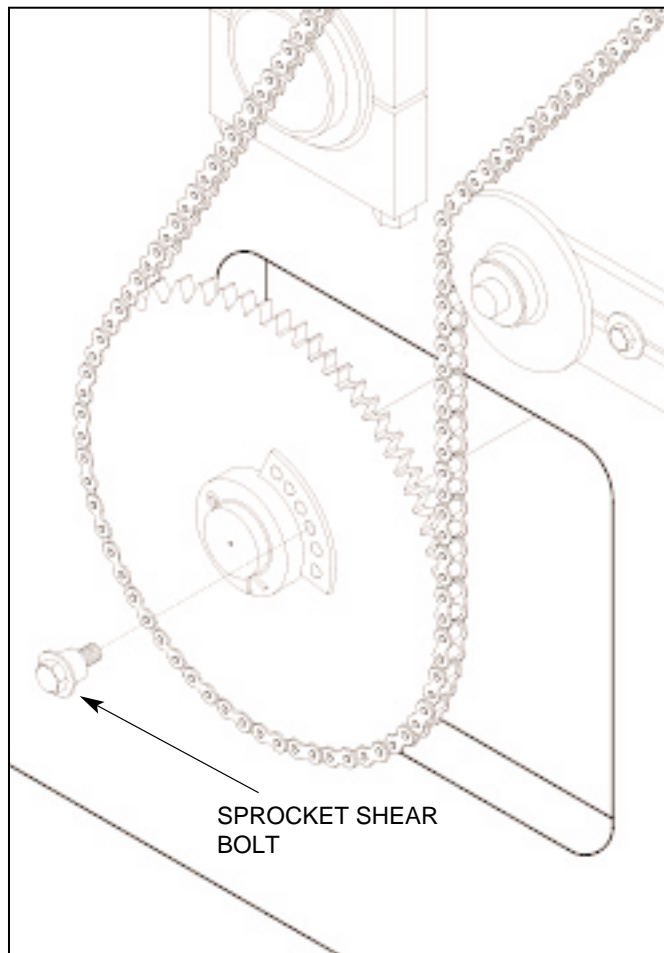

Figure 4.28 REMOVING SHEAR BOLT
4.2.19 Remove the shear bolt from the pallet feeder drive sprocket (see figure 4.28).